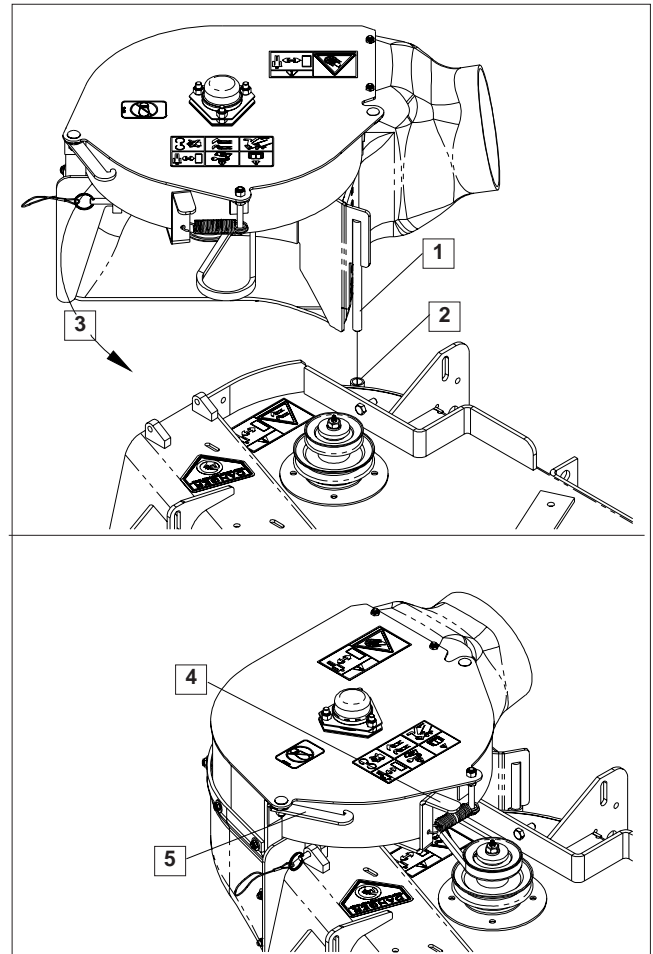

FIGURE 1
9. Place the deck plate pin in the tube on the back edge of the deck. Rotate the blower around and into place. Figure 1.
10. Install the pin thru the tabs on both the deck and the blower. Figure 1.
11. Latch the idler arm in the idler keeper. Figure 1.